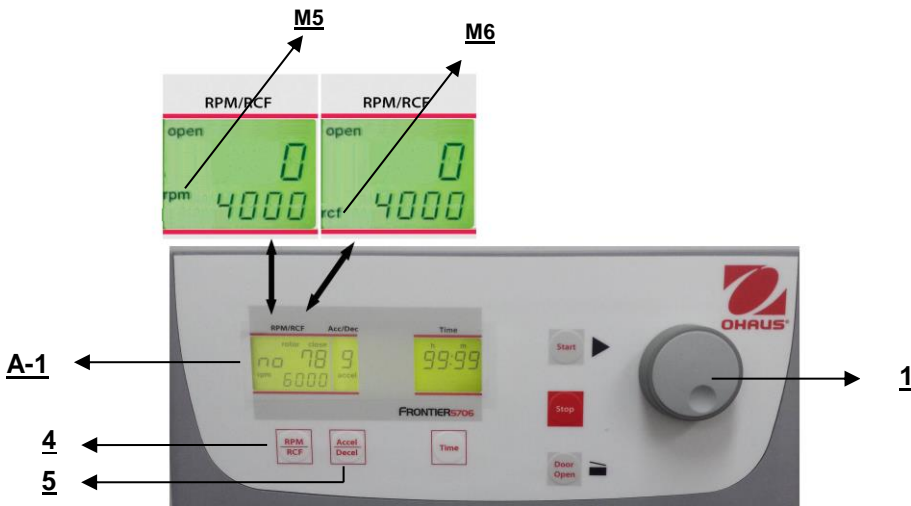

Figure. 19
This pre-selection is activated through the key "RPM | RCF" (4) (refer to figure 19 below). By pressing the key once the word "rpm" (M5) flashes. By pressing the key twice the pre-selection of the centrifugal forces can be selected. Then the flashing word "rcf" (M6) appears. You can set the desired values with the adjusting knob (1). In the display (A-1) the regulated value is shown permanently, before, during and after the run.